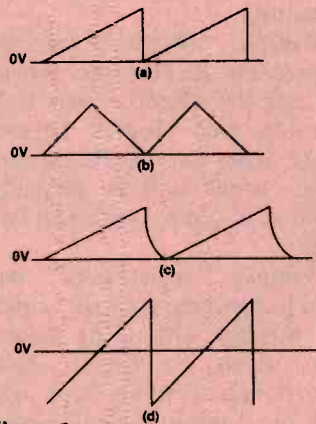

Figure 3.
6. Which of the waveforms in Figure 3 is best for a sawtooth qualitative test?